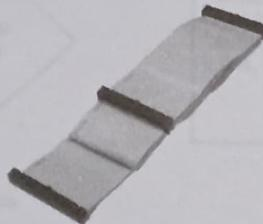

Fig.HD-8.1
- Interface:** Refers to a connector, which connects a CD/DVD-ROM drive to a computer. A CD/DVD-ROM drive connects to a computer by using the Integrated Drive Electronics (IDE) or SATA interface. Fig.HD-8.1 shows the interface of a CD/DVD-ROM drive: